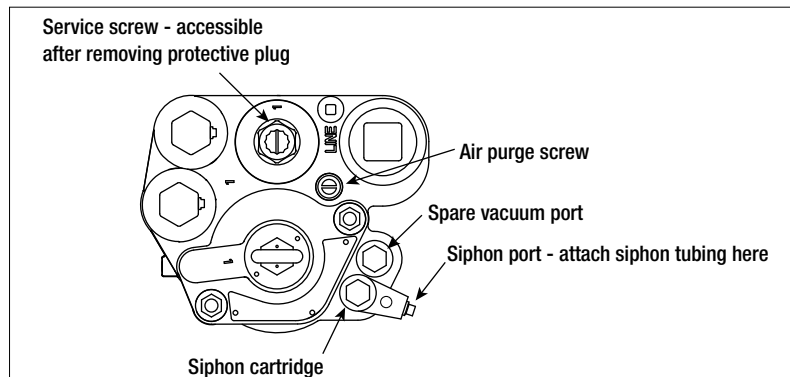

Figure 22. Siphon Ports
2. Remove and save the protective plug over the service screw and turn the screw clockwise (see Figure 22). As the screw approaches its bottom position, you will hear the system depressurizing. Continue turning the screw until it can go no further. When the screw is all the way down, backoff the screw 4 turns to lift the check valve and let the fuel drain out of the manifold's hydraulic cavities.
3. Remove one of the two siphon port plugs from the manifold (see Figure 22).
9. Turn the air purge screw 2 - 3 turns counterclockwise (see Figure 22).